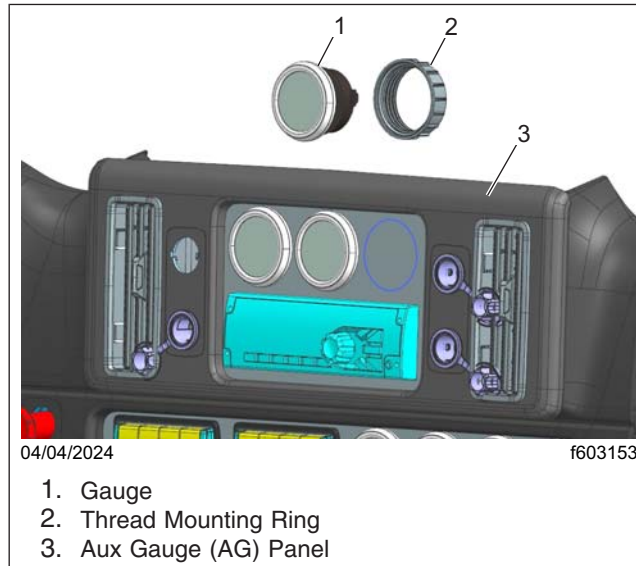

Fig. 16, Typical Gauge Installation (Upper Panel Shown, Lower Panel is Similar)
- 16.3 Insert the gauge from the front of the panel in the hole. Thread the mounting ring on the rear side of the gauge to secure it tightly to the panel. See Fig. 16.